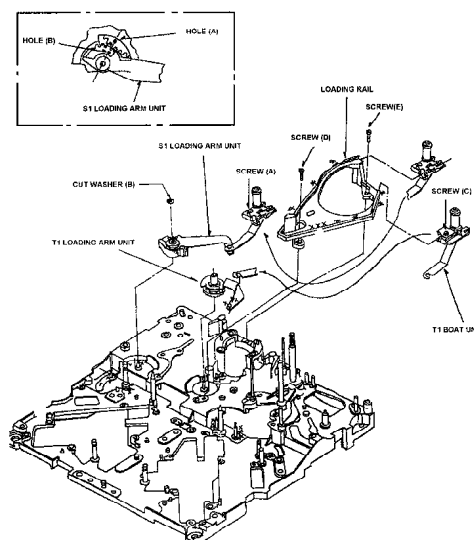

Fig. 6-14-1 Removal of S1 Post Loading Arm Unit
- 3. Remove the S5 Post Base Unit (Refer to item 6-12).**
4. Remove the Tension Arm Unit(Refer to item 6-13).
5. Unscrew the screw (A) and remove the S1 Post from Loading Rail as shown in Figure 6-14-1.
6. Remove the Cut Washer (B) and remove the S1 Loading Arm Unit as shown in Figure 6-14-1.
1. When install the S1 Post Loading Arm Unit, then the hole (A) should be matched hole (B) as shown in Figure 6-14-1.
3. Unscrew the screw (C) and remove the T1 Post from Loading Rail as shown in Figure 6-14-1.
4. Hang off the T1 Boat Unit from T1 Loading Arm Unit as shown in Figure 6-14-1.
3. Remove the cylinder Unit (Refer to item 6-1).
4. Move the T1 Post to loading direction by manual ejecting method until the screw (D) can be removal position as shown in Figure 6-14-1.
5. Unscrew the 2 screws (A) and (C), then remove the S1 and T1 Post from Loading Rail as shown in Figure 6-14-1.
6. Unscrew the 2 screws (D) and (E), then remove the Loading Rail as shown in Figure 6-14-1.
7. Remove the T1 Loading Arm Unit as shown in Figure 6-14-1.